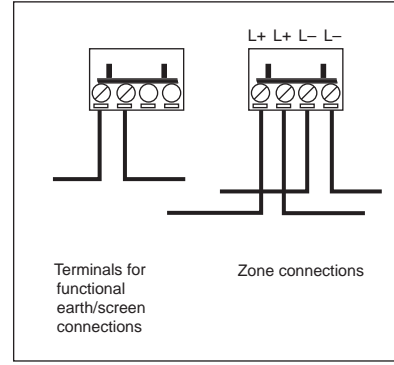

Fig 3 Terminal block connections
- 2. Run the cables into the backbox and connect them to the terminal blocks as shown in Fig 3. Ensure that functional earth/screen continuity is maintained. Screens should be connected to the yellow terminal block marked 1–4 on the black PCB cover.
- 4. Unlock the small front cover by inserting the forked key and pushing it home. Remove key, slide the cover down and remove the deformable element. Connect the terminal blocks as shown in Fig. 3, secure the call point to the backbox and refit the deformable element as required. Finally, replace the front cover in the reverse order in which it was removed and push it up until it locks.